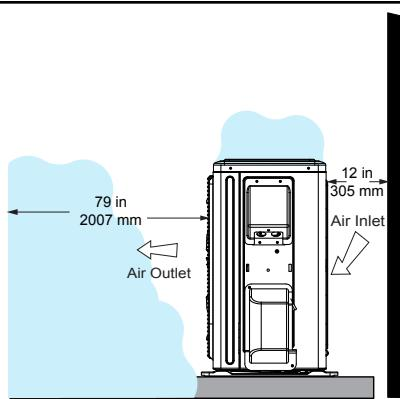

Figure 25. Outdoor Unit Air Flow Obstructed by Snow
- In heavy snow areas, do not place the unit where drifting will occur as illustrated in Figure 25.